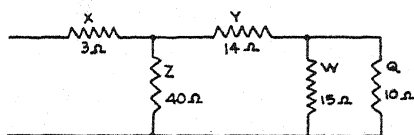

FIG. 46. A typical network or compound circuit.
50. Resistance Networks. Sometimes circuit parts are connected both in parallel and in series. Such a circuit, as shown in Figure 46, is possible in radio sets or transmission systems. But in these networks, or compound circuits as they are also known, the simple rules of series and parallel circuits still hold good, when properly applied.
In all cases where the total resistance is desired, merely begin at the "closed" end of the diagram (*W* and *Q*) and work toward the other end in simple parallel or series units of the circuit. The case shown in Figure 46 will be solved thus, as an example: